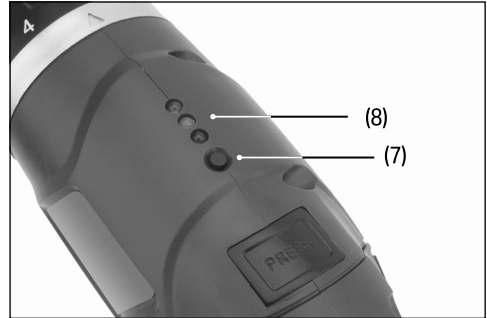

Fig. 1
6.1 Battery Charging (Fig.1 – Fig.2)